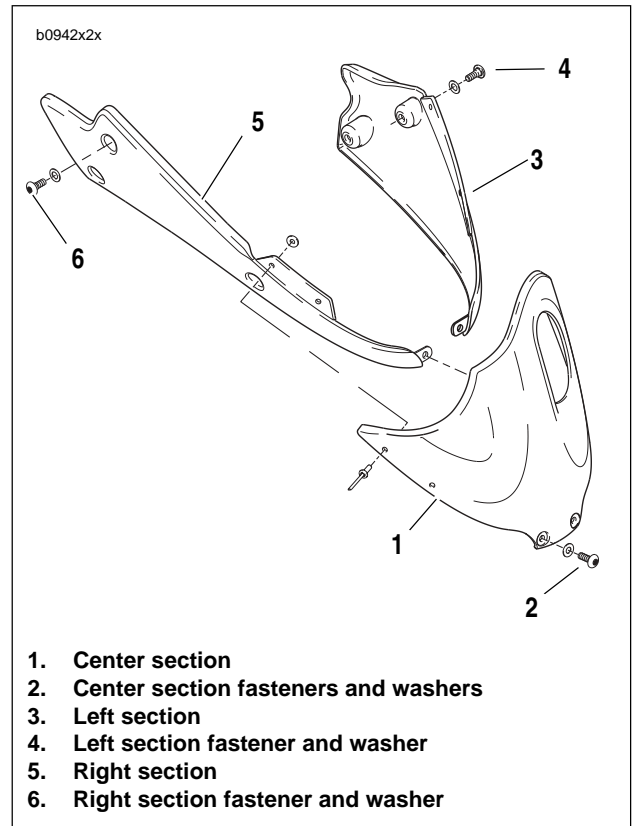

Figure 2-107. Chin Fairing Assembly
3. See Figure 2-107. Remove center section fasteners and washers (2).
4. Remove left section fasteners and washers (4) and remove left section (3).
6. Remove right section fasteners and washers (6) and remove right section (5).
1. See Figure 2-107. Position right section (5) and install with right section fasteners and washers (6).
2. Position left section (3) and install with left section fasteners and washers (4).
4. Position center section (1) and install with center section fasteners and washers (2). Use LOCTITE 272 on all fasteners tightening to 36-48 **in-lbs** (4-5 Nm).